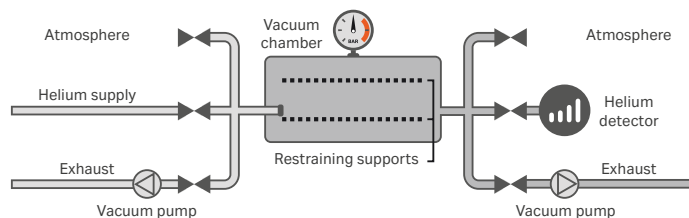

Fig 3. Test chamber schematic.
The tracer gas detection method, in vacuum mode, is the method of choice recommended by USP <1207.2> on package integrity leak test technologies (1). Helium is used as a tracer gas, due to its favorable properties (inertness and small atomic size), in an inside-out test method, whereby helium will be collected in the test chamber should there be a defect (Figure 3).